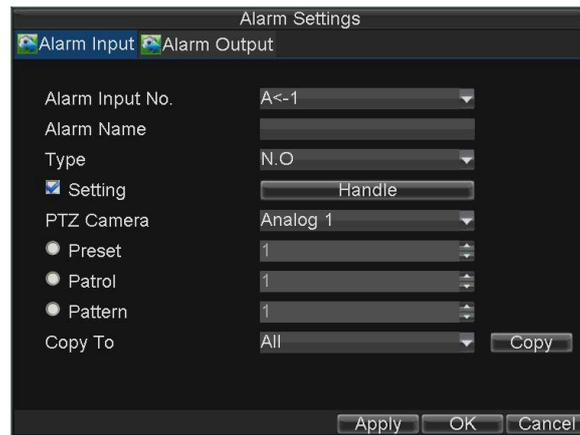

Figure 9. Alarm Management Settings
2. Select the Alarm Input No. and click the **Set** button to enter the Alarm Input Settings menu, shown in Figure 9.